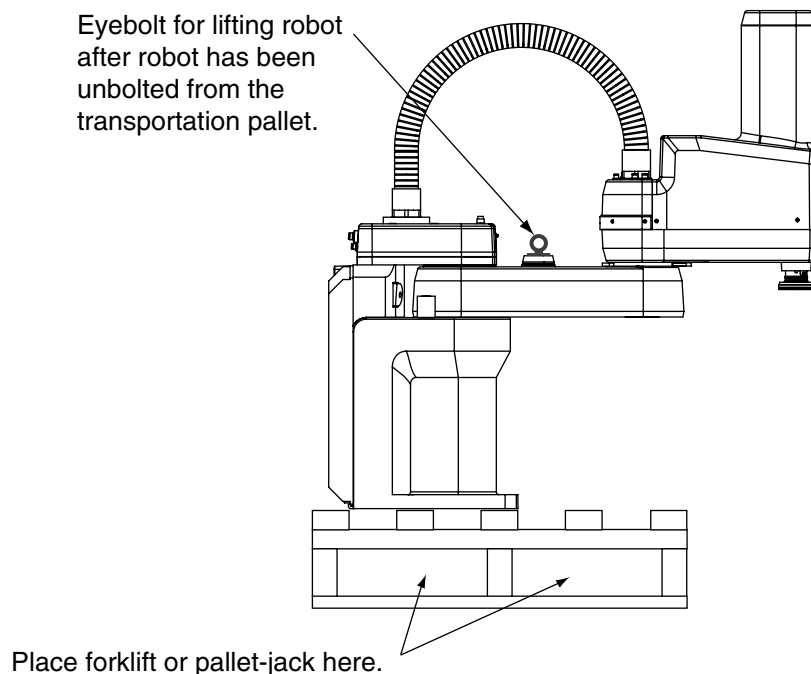

Figure 3-1. Cobra s600/s800 Robot on a Transportation Pallet
Use a forklift, pallet jack, or similar device to transport and store the packaged equipment (see Figure 3-1).
2. While the robot is still bolted to the transportation pallet, connect the hydraulic lift to the eyebolt at the top of the inner link (see Figure 3-1 on page 35). Take up any slack, but do not lift the robot at this time.